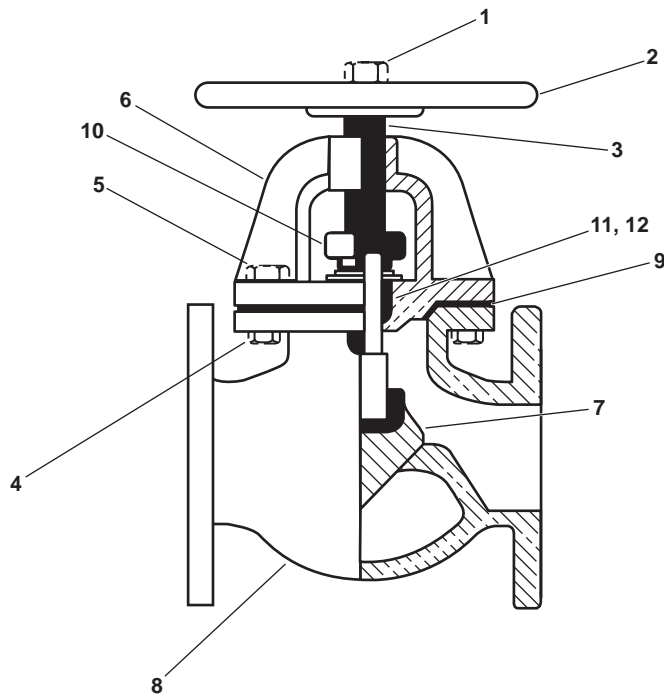

Figure 7. Typical Flanged Globe Stop Check Valve Repair
2. Remove the nut (figure 7, item 1) and handwheel (figure 7, item 2) from the stem (figure 7, item 3).
3. Remove the four nuts (figure 7, item 4) and four bolts (figure 7, item 5) securing the bonnet (figure 7, item 6).
4. Remove the bonnet (figure 7, item 6), stem (figure 7, item 3), and valve seat (figure 7, item 7) from the body (figure 7, item 8) as an assembly.
5. Remove and discard the gasket (figure 7, item 9).
6. If the valve seat (figure 7, item 7) is damaged, pitted, or corroded, remove and discard it.
7. Remove the packing gland nut (figure 7, item 10) and silicone O-ring (figure 7, item 11) and rubber O-ring (figure 7, item 12) from the bonnet (figure 7, item 6).
1. Lubricate a new rubber O-ring (figure 7, item 12) with clear water and slide it over the stem (figure 7, item 3) and into the bonnet (figure 7, item 6).
2. Lubricate a new silicone O-ring (figure 7, item 11) with clear water and slide it over the stem (figure 7, item 3) and into the bonnet (figure 7, item 6).
3. Loosely install the packing gland nut (figure 7, item 10) into the bonnet (figure 7, item 6).
4. If the valve seat (figure 7, item 7) was removed during Disassembly, install a new valve seat on the stem (figure 7, item 3).
5. Position a new gasket (figure 7, item 9) on the body (figure 7, item 8).
6. Place the bonnet (figure 7, item 6), stem (figure 7, item 3), and valve seat (figure 7, item 7) into the body (figure 7, item 8) as an assembly and secure the bonnet with the four nuts (figure 7, item 4) and four bolts (figure 7, item 5).
7. Place the handwheel (figure 7, item 2) on the stem (figure 7, item 3) and secure it with the nut (figure 7, item 1).